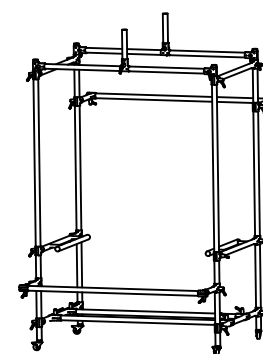

fig. 4
4. As Fig. 4, connect 2x tube C with the 4 tube H by T-clamps, with position as Fig. 4.